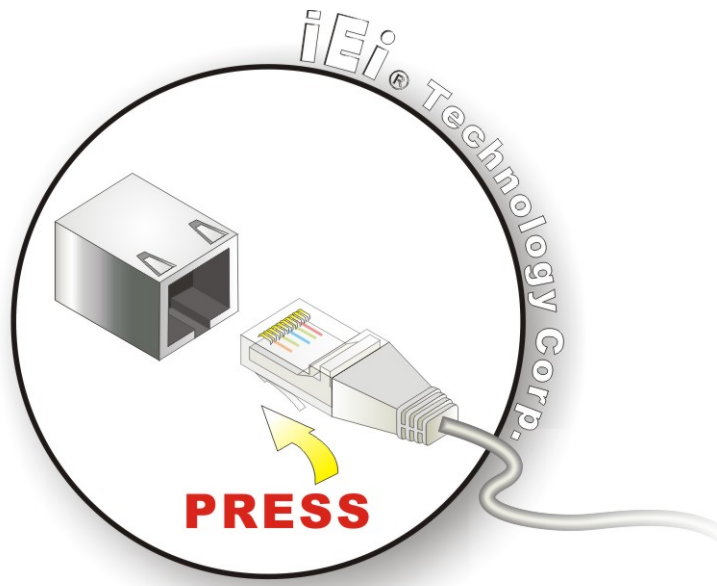

Figure 3-17: LAN Connection
Step 2: Align the connectors. Align the RJ-45 connector on the LAN cable with one of the RJ-45 connectors on the ECN-581A-R11/QM57-I5. See Figure 3-17.